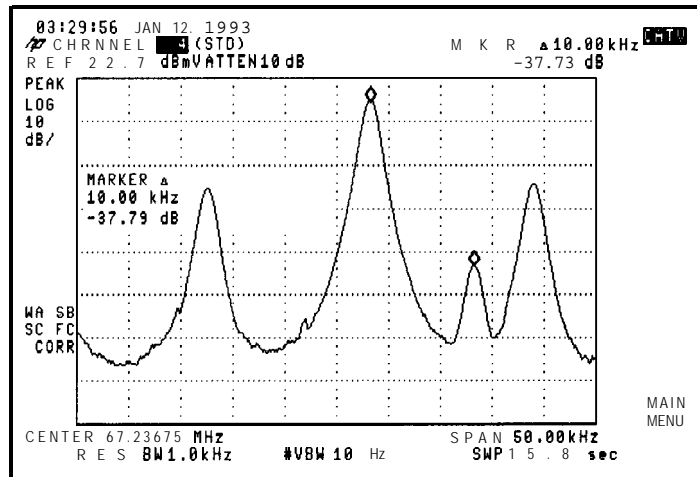

Figure 2-41. View Co-Channel Measurement
5. Press **VIEW CD-CHNL** to set the analyzer to see co-channel interference. See Figure 2-41. Also, see Chapter 5 for more information about **VIEW CO-CHNL**